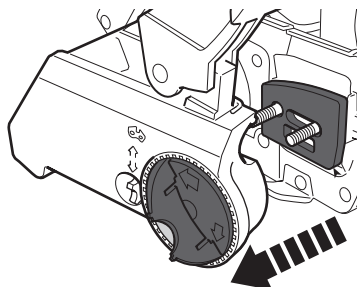

Fig. 3
- > Remove the cover and spacer plate from the bolts (19) (the spacer plate is not to be re-fitted) (Fig. 3).